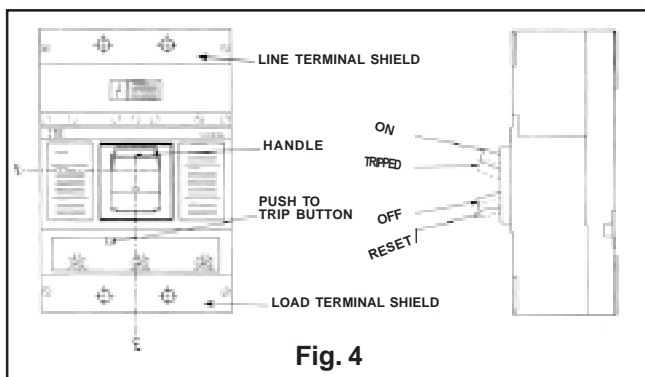

Fig. 4
3. Remove the line and load terminal shields (see Fig. 4) by loosening the two terminal shield screws that attach them to the line and load covers.
Manual operation of the device is controlled by the circuit breaker handle and the PUSH-TO-TRIP button. The circuit breaker handle has three indicating positions, two of which are molded into the handle to indicate ON and OFF. The third position indicates a TRIP position and is between the ON and OFF positions. (See Fig. 4)